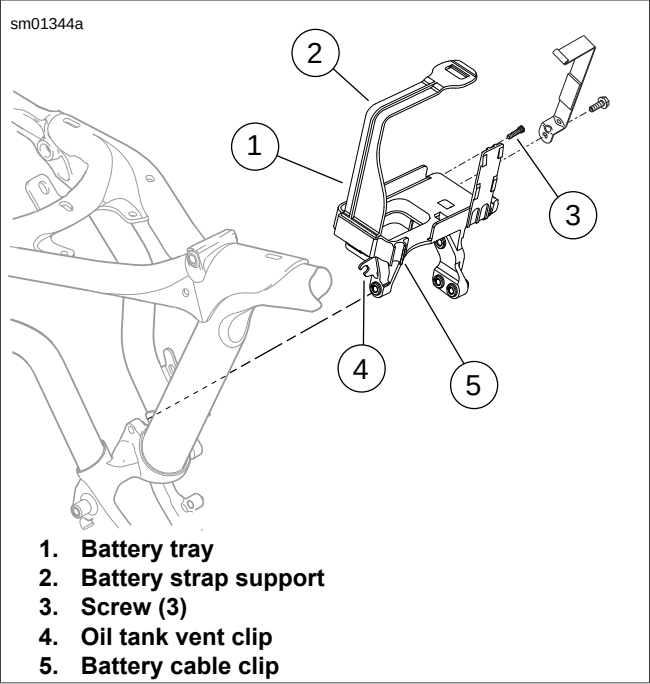

Figure 6-17. Battery Tray
4. See Figure 6-17. Remove three fasteners (3) securing battery tray to mounting tabs on frame.
5. Lift up battery tray slightly so that mounting tabs will clear mounts on frame. As you lift up on tray, pull down gently on end of battery strap support (2) to clear frame and wiring harnesses above battery tray.
2. See Figure 6-17. Slide battery tray (1) into place. Make sure battery tray mounting tabs are positioned behind (to the right of) frame mounts.
4. Install three screws (3) to secure battery tray to frame. Do not tighten screws until all three have been started. Tighten to 96-156 in-lbs (10.9-17.6 Nm).